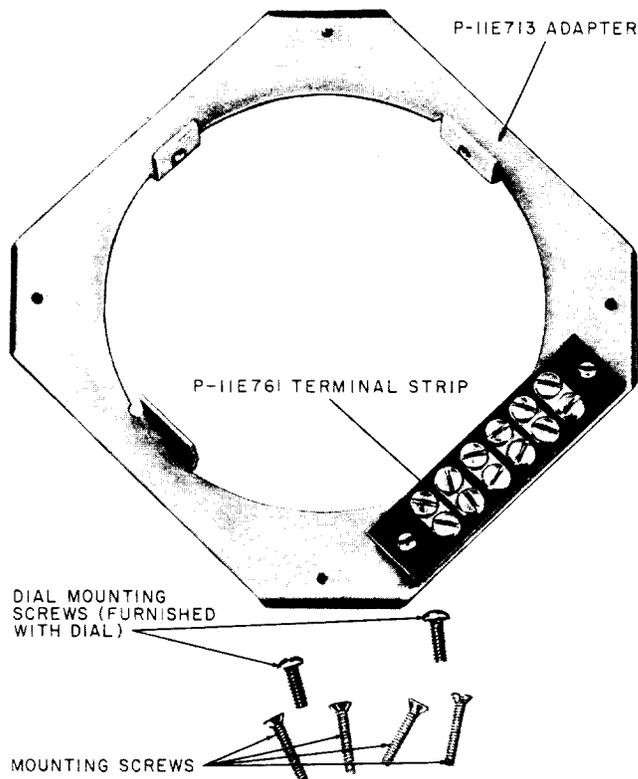

Fig. 4—48A Dial Mounting
**2.13** The 48A dial mounting (Fig. 4) consists of a formed metal adapter and a terminal strip which is arranged to mount a 9H dial flush on a 1/4-inch thick panel. The terminal strip is equipped with six screw-type terminals to permit connection of dial leads and associated circuit wiring. Two screws furnished with the dial secures the dial to the mounting. Four mounting screws are also provided for securing dial mounting to panel.